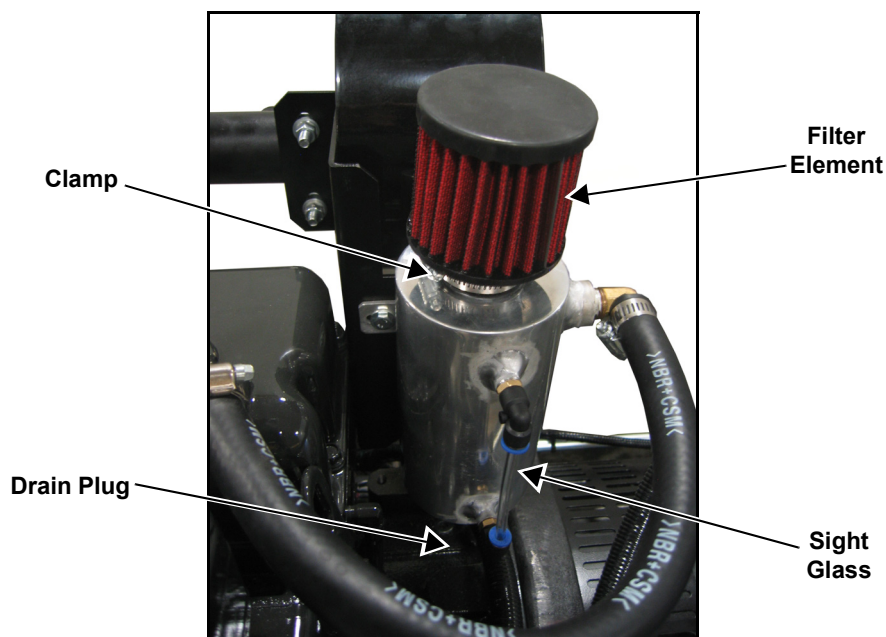

Figure 5-15. Drain Breather Canister and Replace Filter
1. Observe sight glass for level of oil in canister. See Figure 5-15.